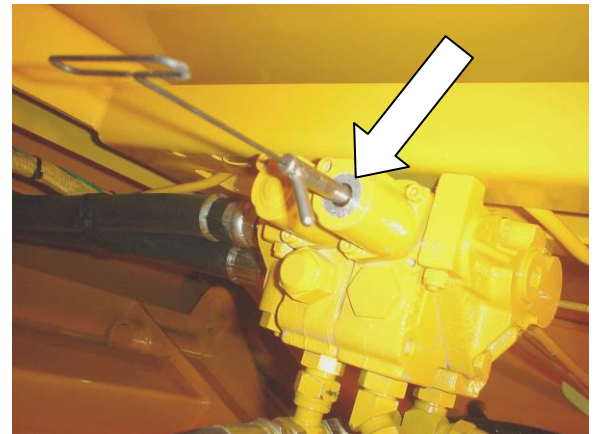

Fig 5
- ❑ 3-The "rule of thumb" is... **1/4 turn of the k-o's allen-head adjuster is roughly equivalent to 100 PSI** of setting change. Based upon where the k-o positoner is presently "checked" to be set at...turn the k-o's allen head adjuster inward (cw...raising the pressure setting) or outward (ccw...lowering the pressure setting) to get closer to the LEGACY3 specification. <FIG. 5>